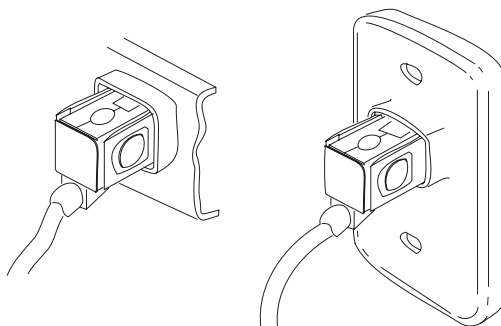

Figure 47. Typical Store Loop Receptacles
- Disconnect the backup store controller from the store loop by unplugging its store loop cable from the store loop receptacle. See Figure 47 on page 542.